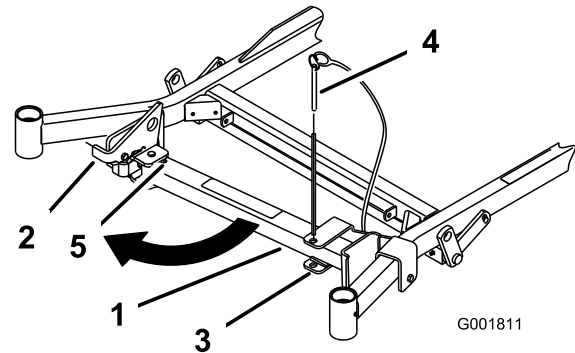
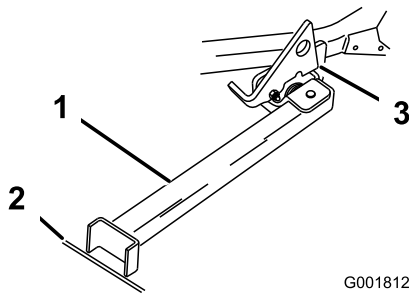

Figure 34
Figure 35
2. Remove the bracket pin (Figure 34).
3. Raise the latch. Swing the stand foot out front and slide stand toward machine, into the bottom of slot (Figure 34 and Figure 35).
6. Set the foot of stand on the ground and rest the latch on the pivot tab (Figure 35).
Note: For best results, place the foot of stand into seams in sidewalks or into the turf (Figure 35).
8. Drive onto the stand. Stop when the latch drops over the tab into the locked position (Figure 35). Once onto the stand, engage the parking brake and turn off the engine.
7. Return the stand to its rest position (Figure 34).